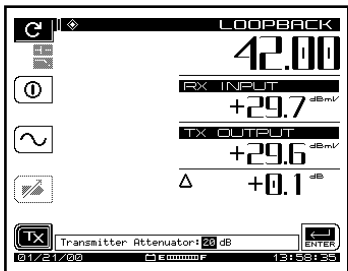

Figure 10
- The transmitter is at the maximum output of +50 dBmV when initially enabled. The user may adjust the transmitted output level by scaling the attenuator (Figure 10) for the desired output level.